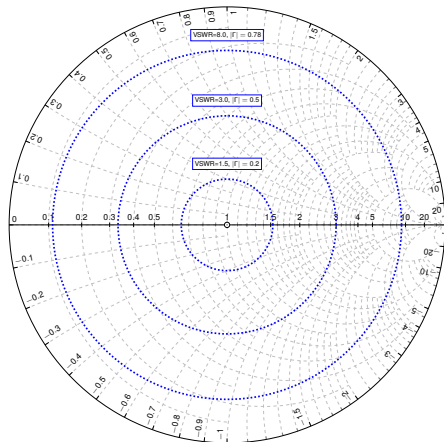

Figure 9 : Constant VSWR circles
- ▶ Figure 9 illustrates this for VSWR=3.0, VSWR=8.0 and VSWR=1.5.